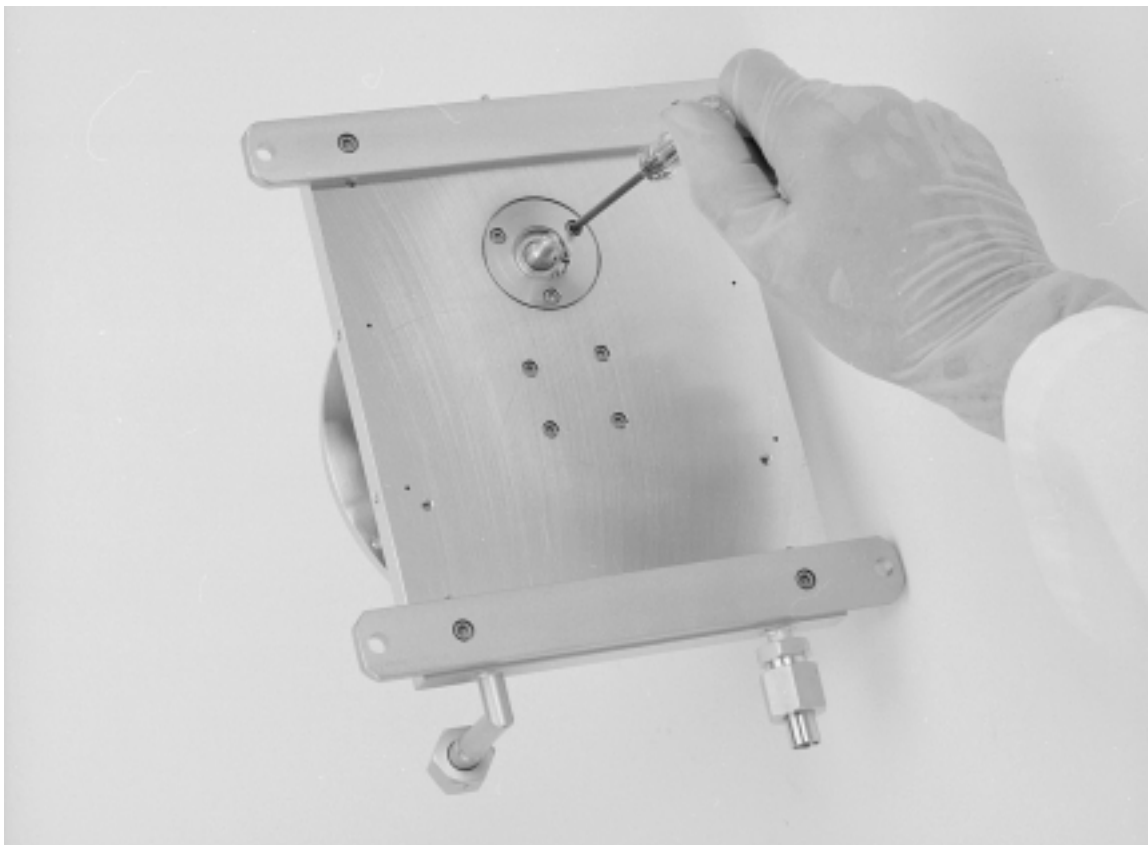

Figure 6-21. Detaching the drive shaft
Step 21: If this is a bottom-drive source, remove the three 6-32 3/8" screws that secure the drive shaft assembly to the source base plate, as shown in Figure 6-21.